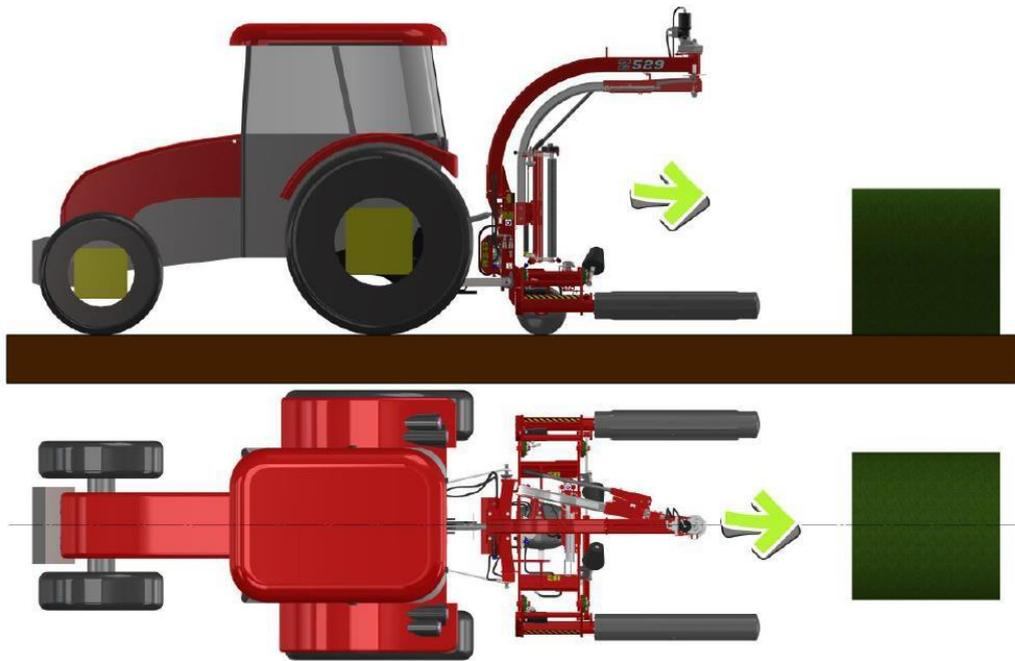

Figure 16. Bale loading position
3. Press and hold the  push button to extend the bottom arms. Move the bale wrapper in the loading position (Fig. 16). Press the  button to begin bale loading. When loading is over a green LED above the **START/STOP** push button begins to flash meaning readiness for wrapping to start. If, during the automatic loading, the arms do not contract the end they should be closed manually with the  button. You can also change the automatic loading time between 4-15 s in the control panel menu.